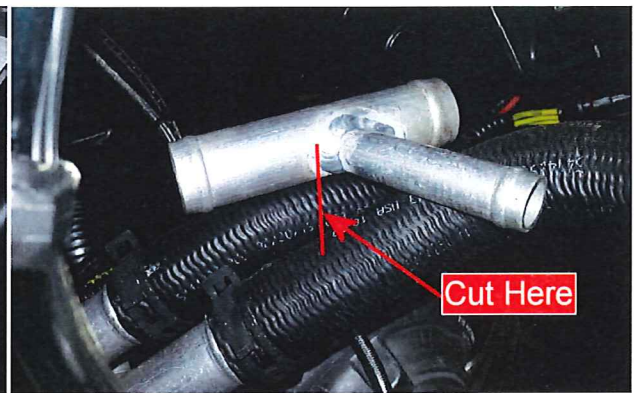

Figure 12b
- a. Route the portion Radiator Hose that comes through the firewall is positioned over the Aluminum Y Connector that is nearest the firewall (see Figure 12b)